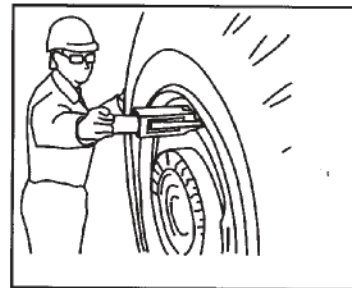

Figure 3
4. Stand to one side of the bead breaker. Hold the bead breaker with one hand. (See Fig. 3)